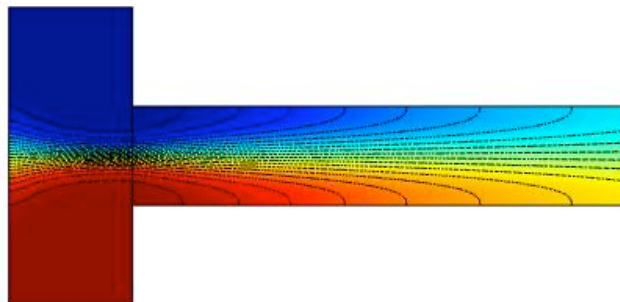
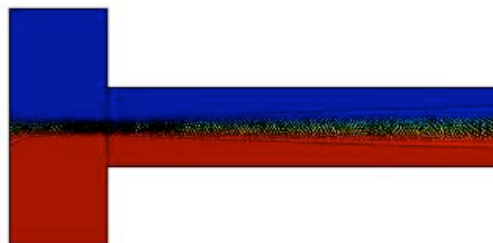

Figure 11.5. Solution to T-sensor diffusion/convection problem with $D = 1/50$
Figure 11.6. Solution to T-sensor diffusion/convection problem with $D = 1/500$
Step 8: change the Peclet number. Change the Peclet number to 50 and repeat. Click the Variables sub-node under Definitions and change 1 to 50. Right click Study 2 =. Change to the plot of concentration, Figure 11.5. Now there is good mixing, but not as good as when the Peclet number is smaller. The flow rates in and out are: 0.499959 and 0.5000000, which gives a quite accurate mass balance. Change the Peclet number to 500 and repeat, giving Figure 11.6. Now the mixing is not nearly as good. The mass balance numbers are the same as before, giving a good overall mass balance. Note, however, that the concentration (in the scale) goes from -0.019 to